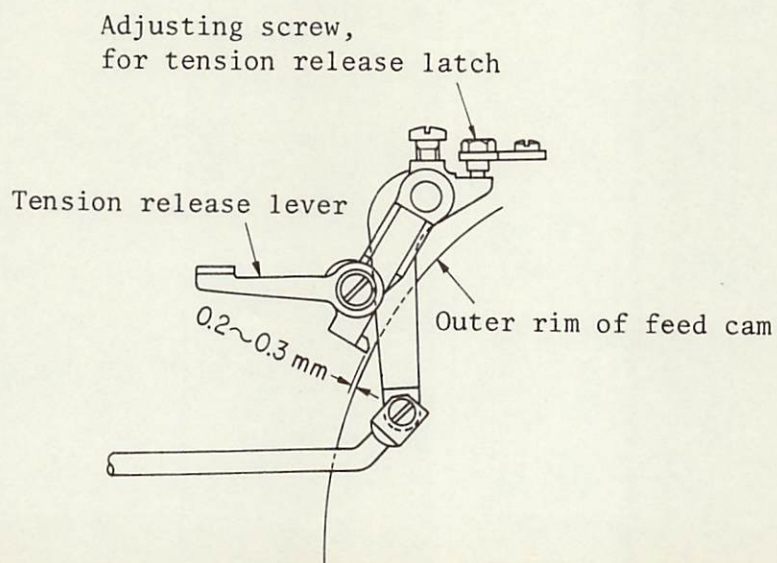

Fig.48
- \* Adjust the end of the tension release latch by means of the tension release latch adjusting screw so that during the running of the machine, there will be a clearance of  $0.2 \sim 0.3\text{mm}$  ( $1/128'' \sim 1/100''$ ) between the tension release latch end and the feed cam. (Fig.48)